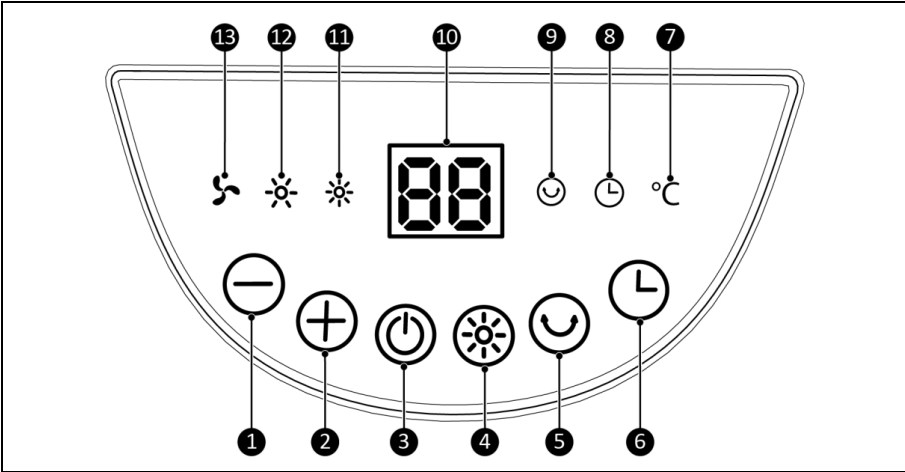
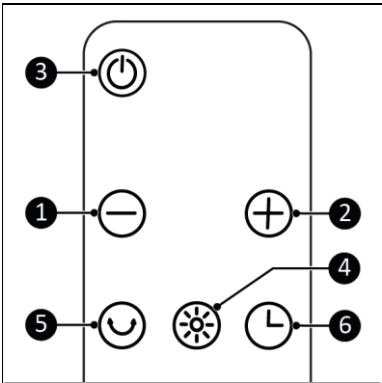

Figure 3
Figure 4
2. Press  on the device (Figure 3, pos 3) or the remote control (Figure 4, pos 3). The device starts in fan mode. The LED display (Figure 3, pos 10) shows the ambient temperature. The fan indicator light (Figure 3, pos 13) also lights up.
The LED display (Figure 3, pos 10) shows the measured ambient temperature. The device continues to heat in the selected heat mode regardless of the measured temperature. If the temperature gets too high, a lower heat mode must be chosen.
The LED display (Figure 3, pos 10) shows the set temperature flashing for a few seconds. After this the LED display shows the ambient temperature.